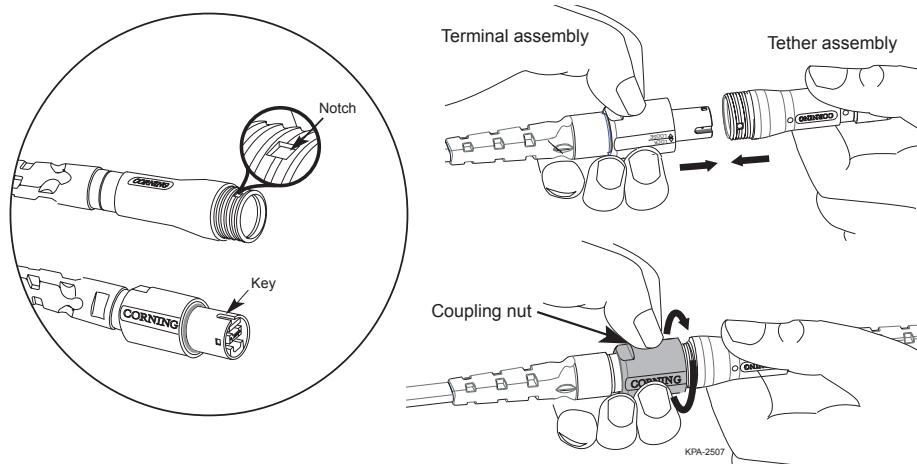

Figure 15
Step 3: To remove the terminal assembly's dust cap, hold the dust cap with one hand and back off the coupling nut as shown in Figure 15.
Step 4: Locate the reference keys on each assembly (see Figure 15 inset).
Step 5: Align the reference keys and gently turn the assembly coupling nut onto the tether assembly until the nut is hand tight (Figure 15).